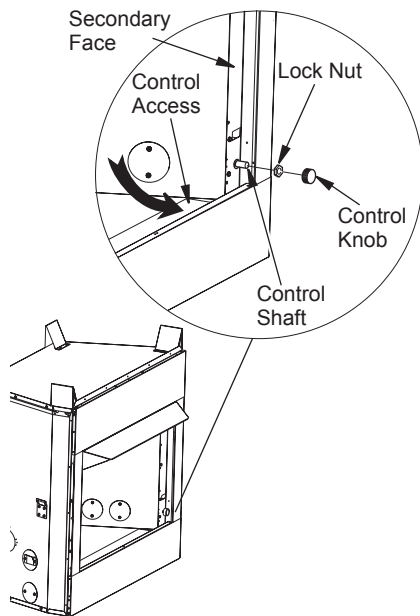

Figure 17 - Attaching Speed Control (Model May Vary From Illustration)
3. Remove metal lock nut from plastic control shaft by turning lock nut with pliers counter clockwise. Mount speed control box by placing plastic control shaft through hole on lower portion of the left or right side of secondary face by sliding control box down through large hole in firebox bottom and up behind firebox side (see Figure 17). Secure speed control to side face with previously removed lock nut by pushing and turning lock nut clockwise with pliers until it is tight against side face of fireplace (see Figure 17).
4. Place control knob, provided, onto control shaft (see Figure 17).